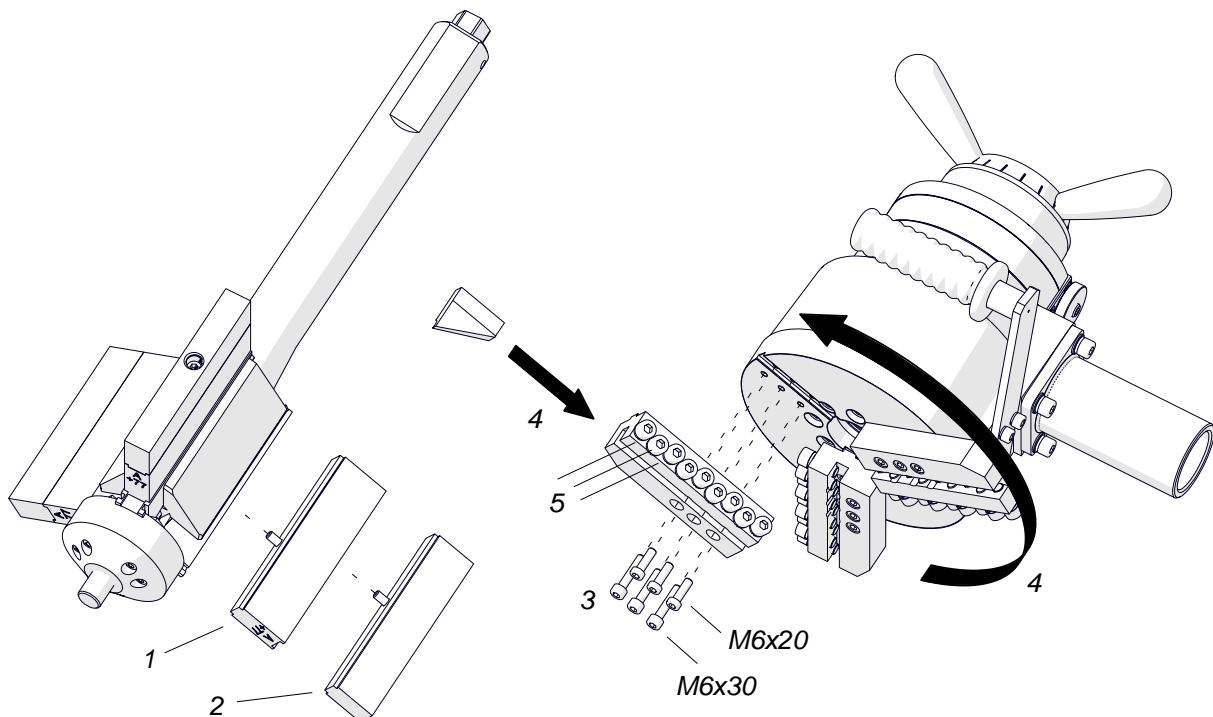
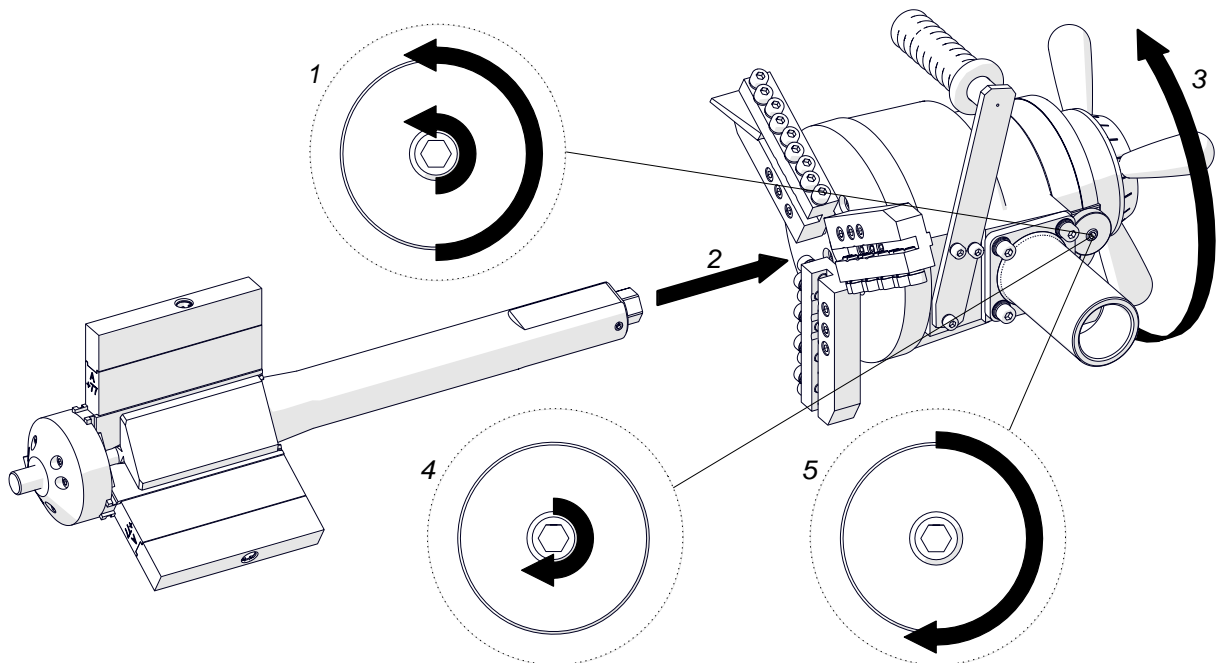

Fig. 2. Installing the jaw blocks, adapters, tool holders, and tool bits
Fig. 3. Installing the mandrel into the machine
Use the 5 mm hex wrench to fix the adapters (1, Fig. 2) and jaw blocks (2) to the expanding mandrel.
Loosen the nut and use the 5 mm hex wrench to loosen the set screw (1, Fig. 3), and insert the mandrel into the machine (2). Make sure that tool bits installed are not in contact with the mandrel. Next, rotate the handles to the right (3) by at least 10 turns until the mandrel engages with the machine fully. Then, tighten the set screw (4) and check whether the handles can be rotated in both directions easily. If the screw is too tight, readjust it. Finally, tighten the lock nut (5).
To remove the mandrel, loosen the nut and use the 5 mm hex wrench to loosen the set screw (1, Fig. 3) by at least one turn. Then, rotate the handles to the left to remove the mandrel.
Install the mandrel after previously removing the existing expanding mandrel. To do this, loosen the nut and use the 5 mm hex wrench to loosen the set screw (1, Fig. 3) to at least one turn. Then, rotate the handles to the left to remove the mandrel.
Use the following table to select jaw blocks of the small expanding mandrel set suitable to the inner diameter of the pipe to be machined. Next, use the 3 mm hex wrench to tighten them to the small expanding mandrel as shown in Fig. 2, and insert the mandrel into the machine (2, 3, 4, 5, Fig. 3).
Install the set after previously removing the existing tool holders. To do this, use the 5 mm hex wrench to unscrew the screws (3, Fig. 2) and use them to install the tool holders of the extension set.
Use the following table to select jaw blocks of the extension set suitable to the inner diameter of the pipe to be machined. Next, use the 5 mm hex wrench to tighten them to the standard expanding mandrel as shown in Fig. 2. Then, use the 4 mm hex wrench to tighten the tool bits (5, Fig. 2).
Use the following table to select either standard jaw blocks suitable to the inner diameter of the pipe to be machined or jaws blocks of the extension set for flange facing. Then, use the 5 mm hex wrench to tighten them to the large expanding mandrel as shown in Fig. 2, and insert the mandrel into the machine (2, 3, 4, 5, Fig. 3).